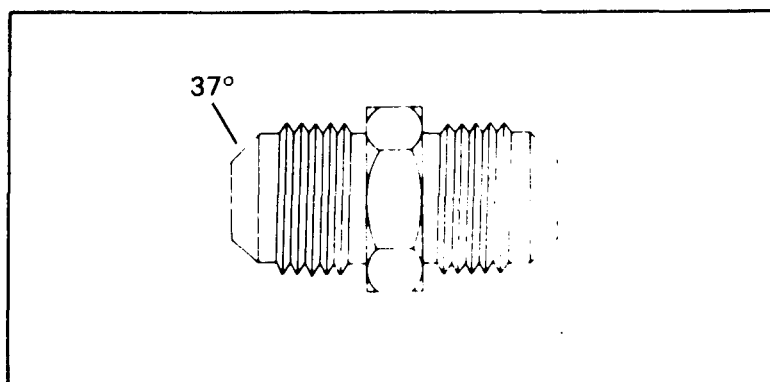

Figure 2-26. Standard AN fitting (union).
Flared Fittings (AN). Flared fittings, like flareless (MS) fittings, come in many different shapes. They are easily identified by their distinguishing colors; aluminum alloys are blue, and steel alloys are black. Aluminum-bronze fittings are cadmium-plated and are not otherwise colored. Only steel fittings are used with steel tubing (3/8-inch outside diameter and smaller); other fittings and tubing can be intermixed. The main difference between AN and MS fittings is the manner in which the hydraulic tube fits to the fitting. The MS fitting has a counterbore in which the tubing is inserted; the AN fitting has a 37° flared (beveled) face to which the tubing is fitted. (See Figure 2-26.) This flared area of the fitting is the sealing surface and must be maintained. Any bad flare on this sealing surface will show up as a hydraulic leak.